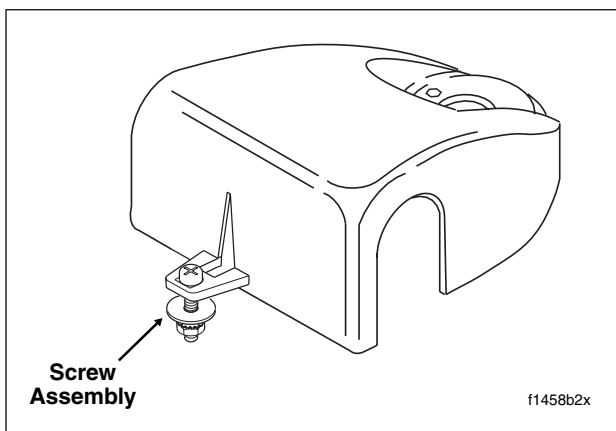

Figure 2-174. Handlebar Clamp Shroud and Screw Assembly
11. Raise the handlebar clamp shroud, and after separating the halves of the headlamp nacelle slightly, slide the shroud forward running the shaft of the Phillips screw down the gap. See Figure 2-174.
3. If disassembled, install screw assembly on the handlebar clamp shroud as shown in Figure 2-174.